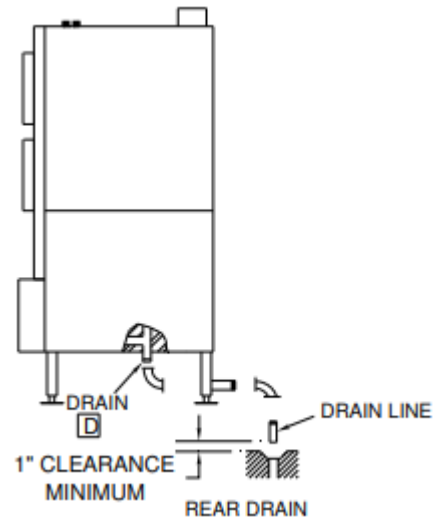

Figure 3-5
Furnishing and installing the drain line is the responsibility of the owner and/or installer. Figure 3-5 illustrates a drain layout recommended by Cleveland Range.
- The steamer is supplied with a 1-½ -inch pipe connection at the bottom of the unit (Figure 3-5).